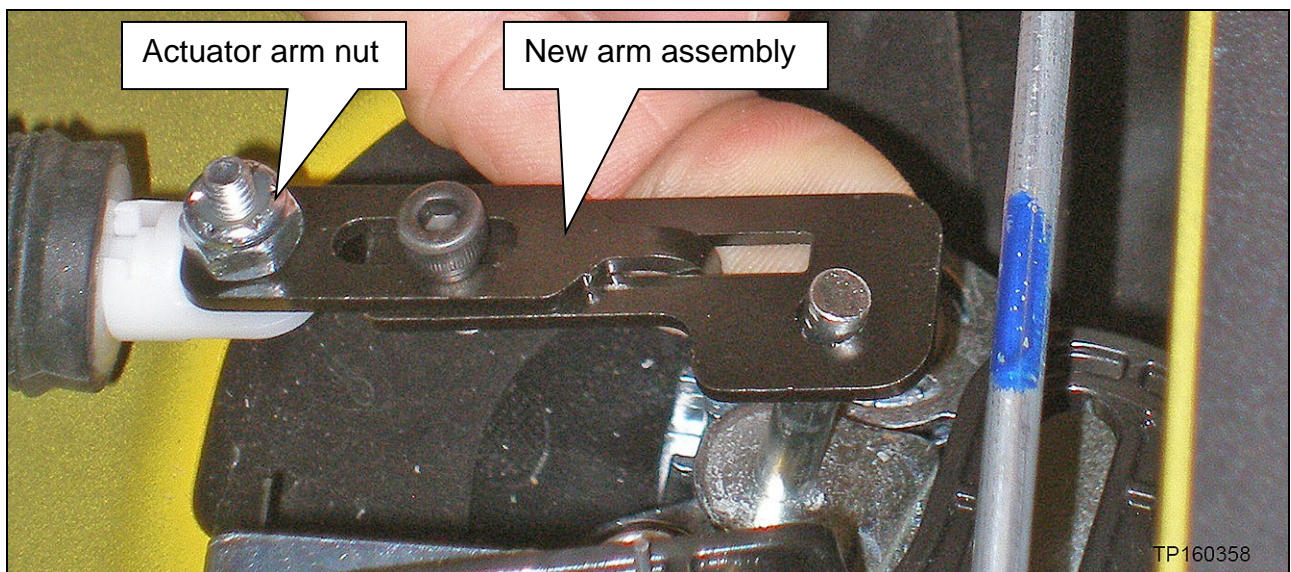

Figure 11
e. Install the new arm assembly as shown in Figure 11, actuator arm nut finger-tight.